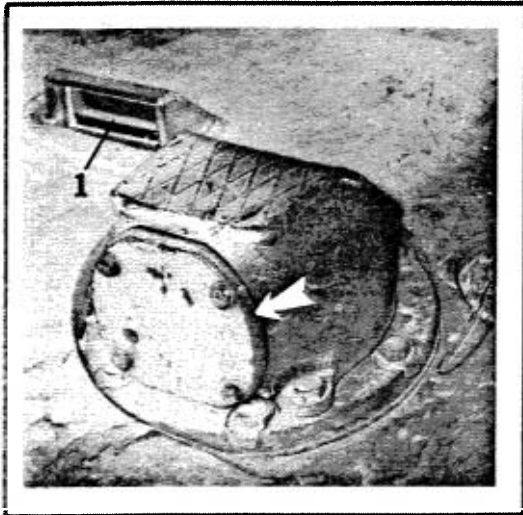

FIG. 3-22. PERISCOPE WITH PROTECTIVE COVER
During the day, the gunner's periscope is protected by an armored shield that bolts to the front of the protective housing (Figs. 3-22, 3-23). This shield and the mounting bolts should be carefully stored after removal.
(4) Vision Block, Type TNP-165 (Figs. 3-22, 3-26). Above the gunner's telescope, suspended from the turret ceiling, is a 1 x power vision block that can be used for general sight, main gun orientation before acquiring a target in the relatively narrow field of vision of the telescope.